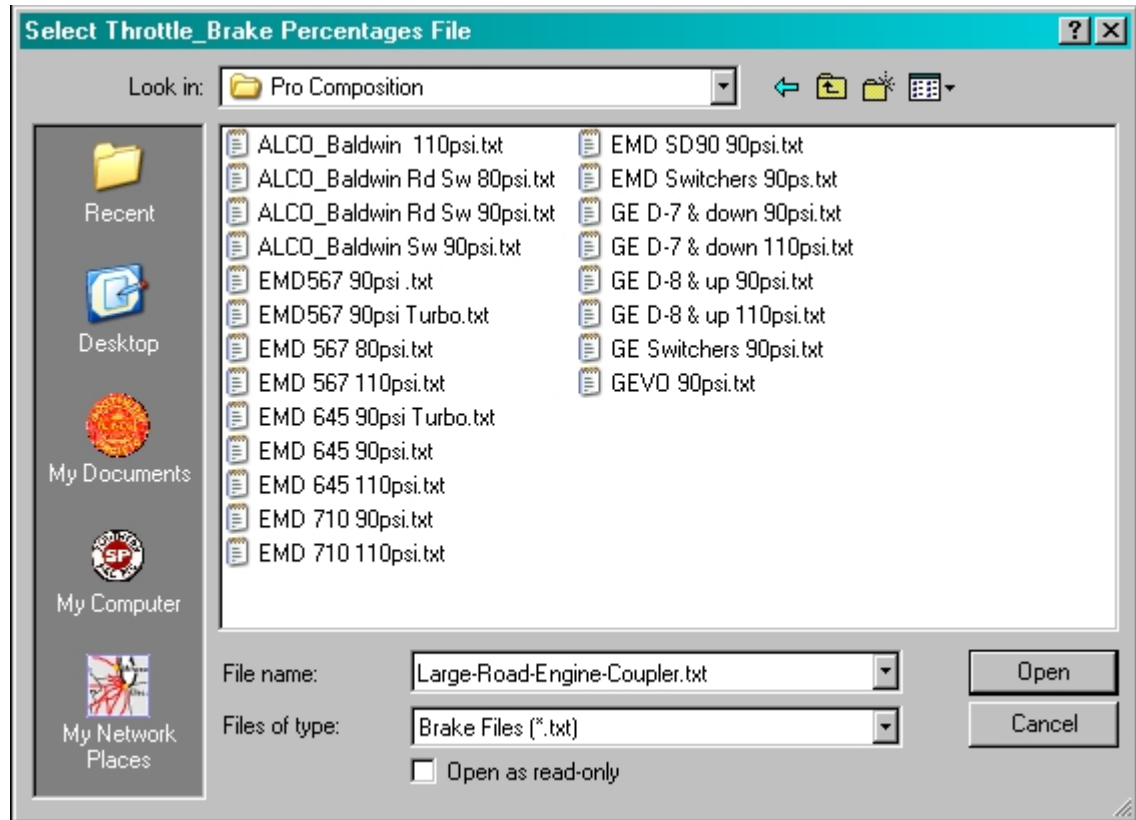

Figure 106
7. You should now see a new window as shown in Figure 106 with an array of locomotives to choose from. As per our trip to the Internet, we found out that the SD40-2 came with a 645 prime mover so we have the choice of Turbocharged and non-turbocharged. In this case we will equip our **eng** file with the *"EMD645 90psi Turbo.txt"* option. To determine the correct psi file to choose from, open your **eng** file for the item you are upgrading and seek out the line in Figure 106. By doing this we can see that our engine uses a 90psi train brake pressure. Now go back to our editor in **Route_Riter** and double left-click the *"EMD 645 90psi Turbo.txt"* file.